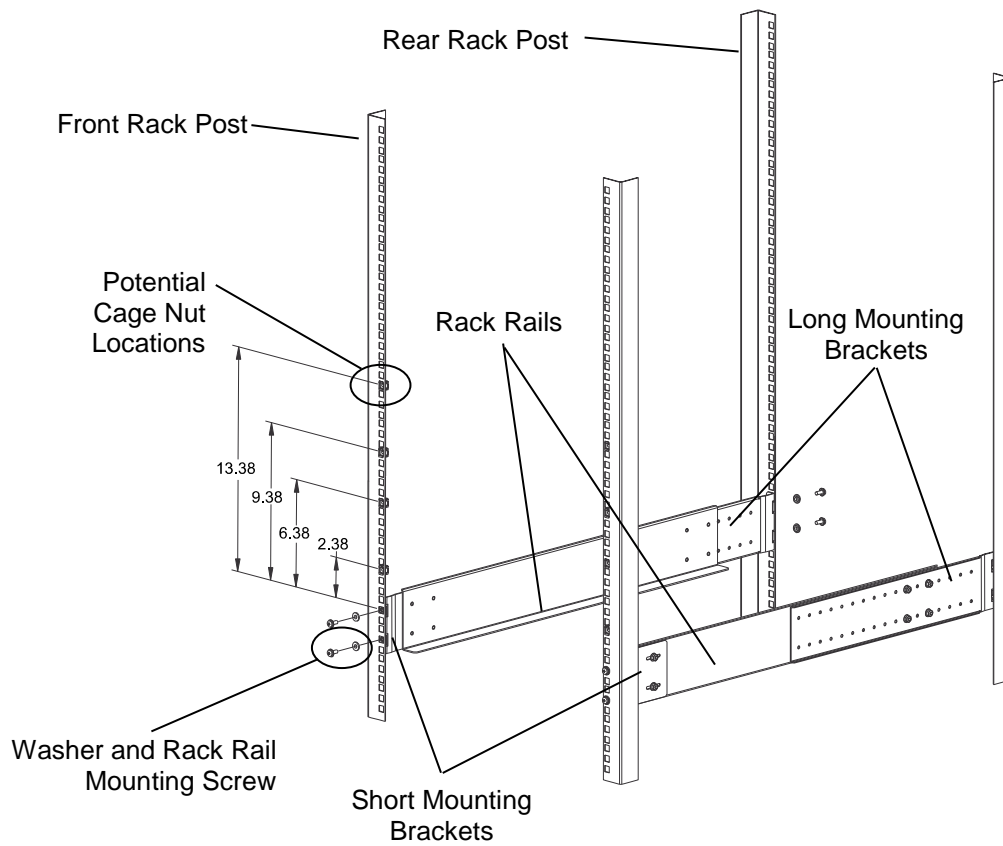

Figure 5-2 Rack Rail Assembly between the Front and Rear Rack Posts
2. Position a rack rail assembly between the front and rear rack posts and use a tape measure to determine how far the brackets need to be moved so that the mounting holes of the brackets will be in contact with the inside edge of the rack posts. Note that the long bracket must be mounted at the rear of the rack. Refer to Figure 5-2.
5. Position a rack rail assembly between the front and rear posts so that the brackets are touching the inside of the posts and the holes in its brackets align with the mounting positions chosen in Step 1. Make sure that the mounting bracket tabs are facing towards the outside of the rack and that the long bracket is at the rear of the rack. Refer to Figure 5-2.